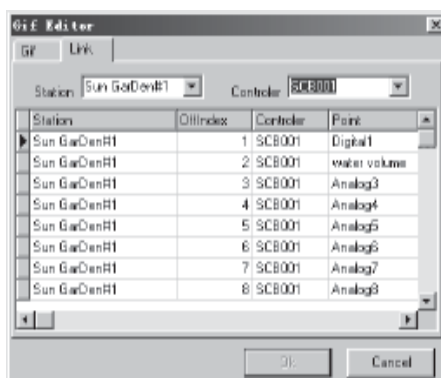

Fig. 4-30 Connect the Input and Output of Animated Picture and FAB
user selects the Image option as in Fig. 4-30, the user may insert the BMP picture files.
3. Select and click `Link`, the system will display the dialogue frame as in Fig. 4-30. Select the FAB I/O Port of the working station that actually corresponds to the exhausting fan and click the `Confirm` button. Thus the animated picture inserting and inter-connecting is completed. When the system is running normally, under the situation conditions satisfied and the exhausting fan in the control site is working, its state will be transferred in realtime to the monitoring system and will be shown in the designed animated pictures. By this function, the user may observe the running state of any equipment graphically.